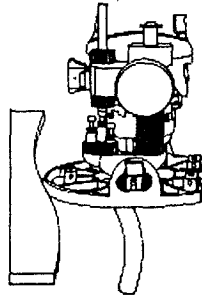

Fig. 21
1. Make a template from hardboard or other similar material to the shape you require (see Fig. 21).